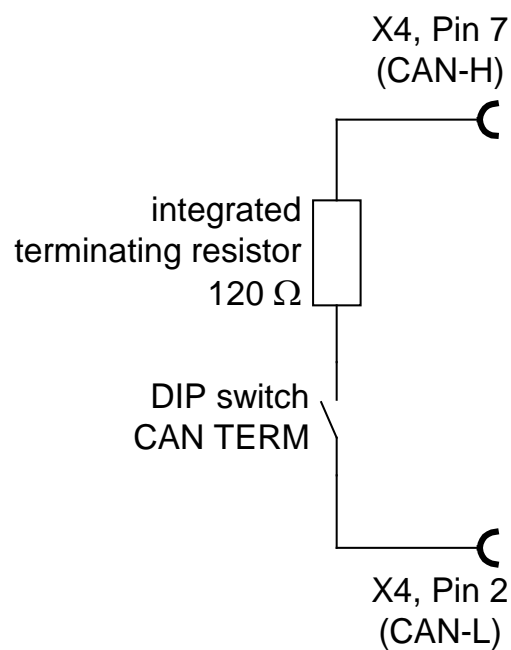

Figure 26: Integrated CAN terminating resistor
- ❖ On both ends of the CAN bus cable must be exactly one terminating resistor of 120 Ω \pm 5 %. All ARS 2100 SE series servo drives are equipped with an integrated terminating resistor that can be activated/deactivated with the aid of the DIP switch "CAN TERM" that is located on the front panel (see *Figure 8* and *Figure 26*)